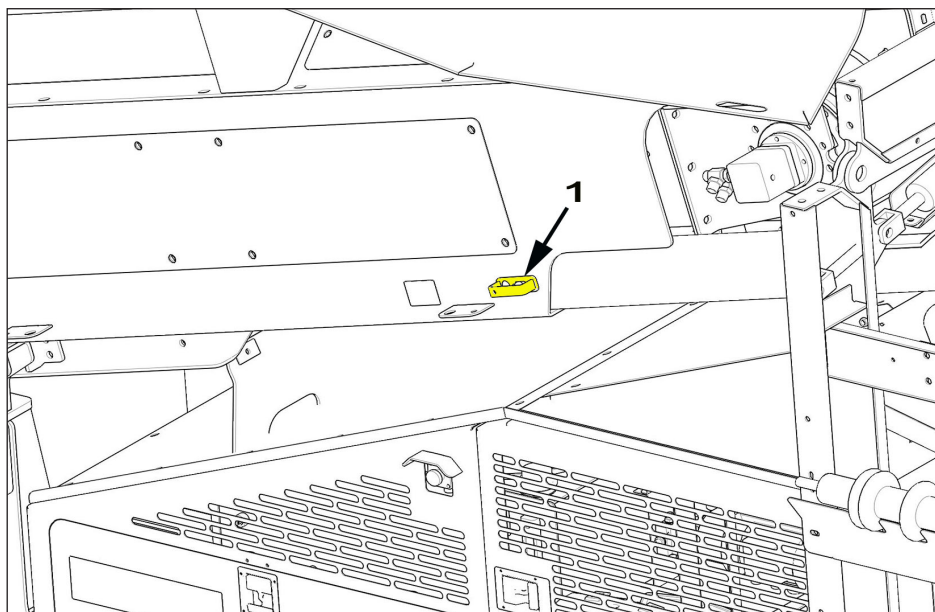

Figure 5.3 - Feeder Transport Position
3. When conveyor is fully back refit Locating Pin (1) Figure 5.3.